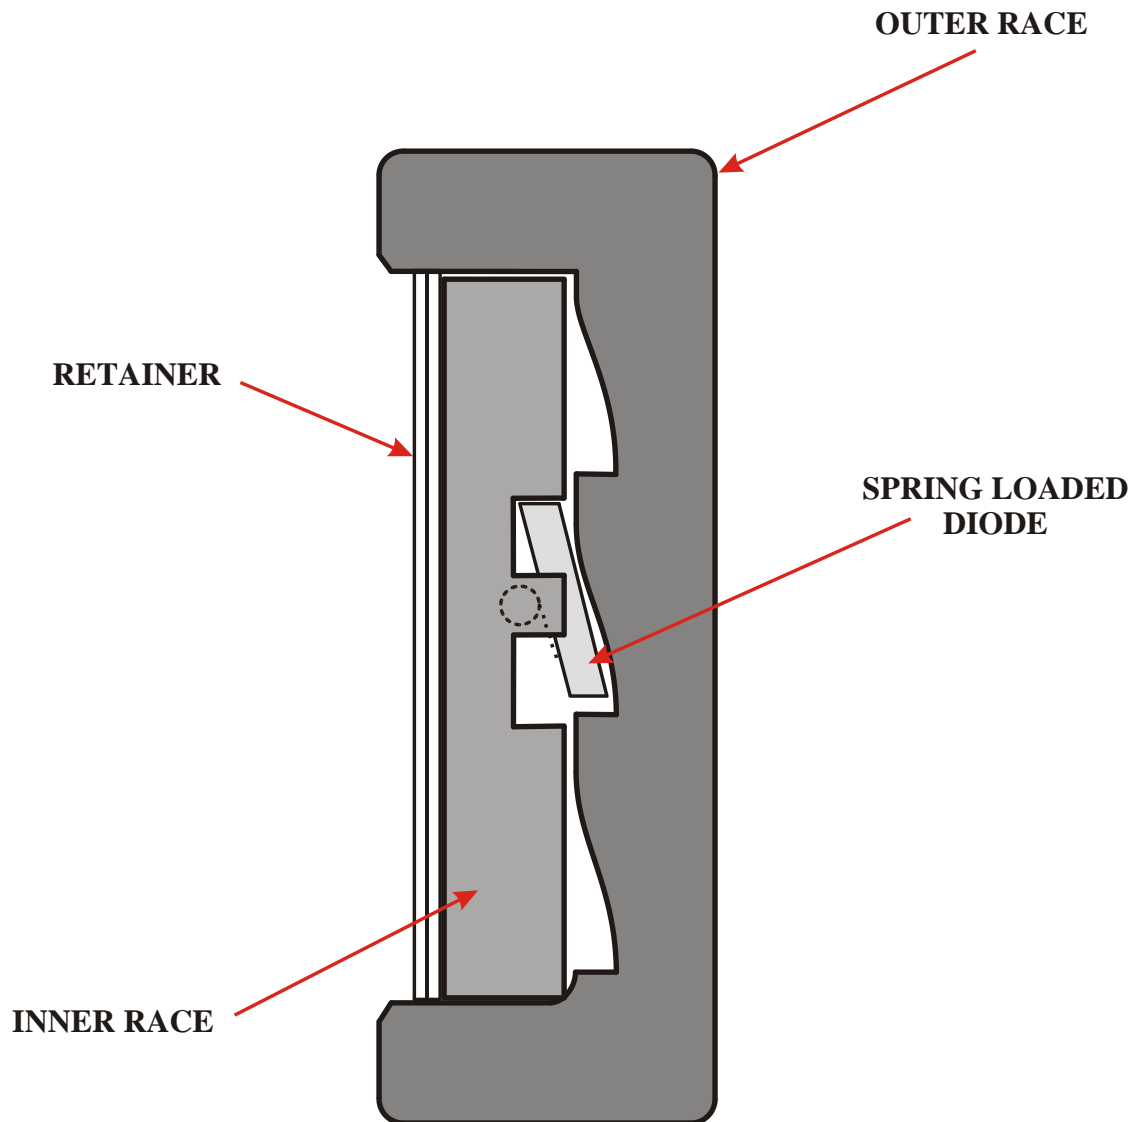

Figure 1
This new design can be manufactured in any configuration of outer race, inner race and retainer to hold the parts together, but all will have several spring loaded "Diodes" inside to do the holding and freewheeling. Refer to Figure 1 for a basic cross section of how a mechanical diode sprag assembly works.
- (1) MECHANICAL DIODE SPRAG ASSEMBLY - Totally new design to replace the previous design intermediate roller clutch in AODE and 4R70W transmissions (See Figures 1 and 2).
- (2) REVERSE INPUT HOUSING - New design housing with "Splines" in place of the previous inner race, to accommodate the new design mechanical diode sprag assembly. Refer to Figures 1 and 2.